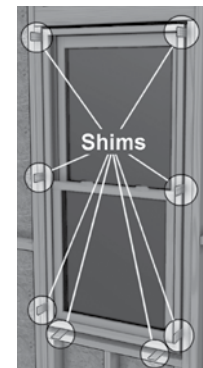

Figure 2
- (Required)** Square the window side to side (shimming if necessary - see **Figure 2**) to maintain square and plumb jambs. Make sure the window sill and head are level and not crowned and the jambs are not bowed. If your window is a horizontal sliding window, make sure each meeting rail is supported. **▲ NOTE: Over-shimming can cause bowing and prevent proper window operation.**